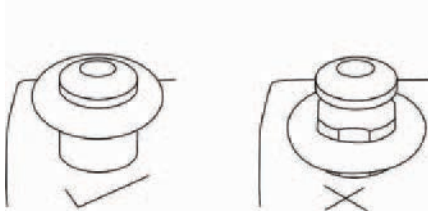

Figure 3
(2) Checking before closing
- Check and make sure the **O-ring** is on the groove. Do not use the cooker if the **O-ring** is not in the correct positions. See Figure 3.